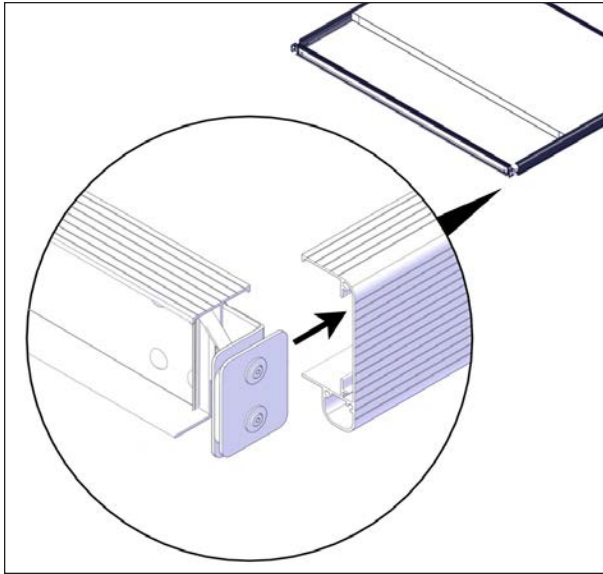

FIGURE 51: I-BEAM INSTALLATION
- Slide an I-beam with the short I to C connection plates in the C-channels with the bent portion pointing outwards see Figure 51.